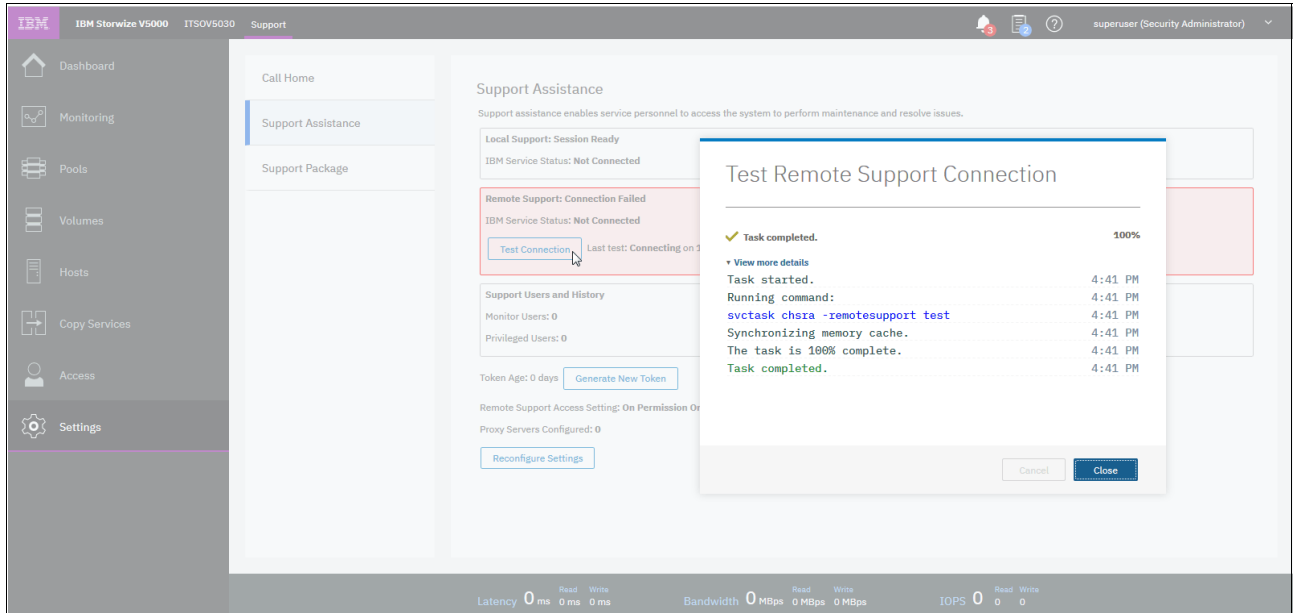

Figure 12-107 Test connection
6. Select **Test Connection** to test the connectivity, as shown in Figure 12-107.